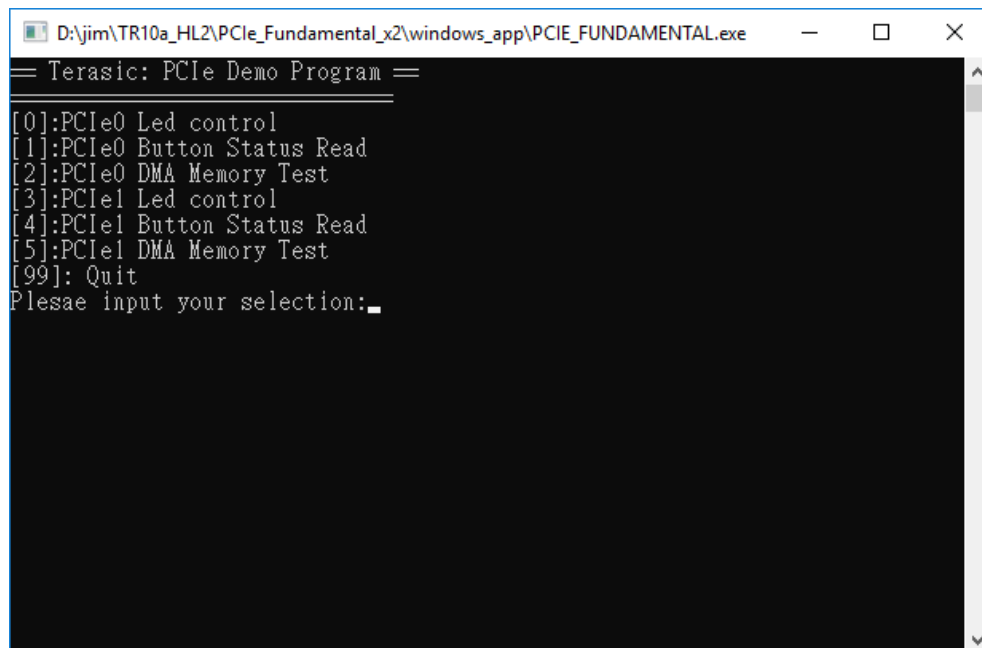

Figure 7-27 Screenshot of Program Menu
7. Goto windows_app folder, execute PCIE_FUNDMENTAL.exe. A menu will appear as shown in **Figure 7-27**.